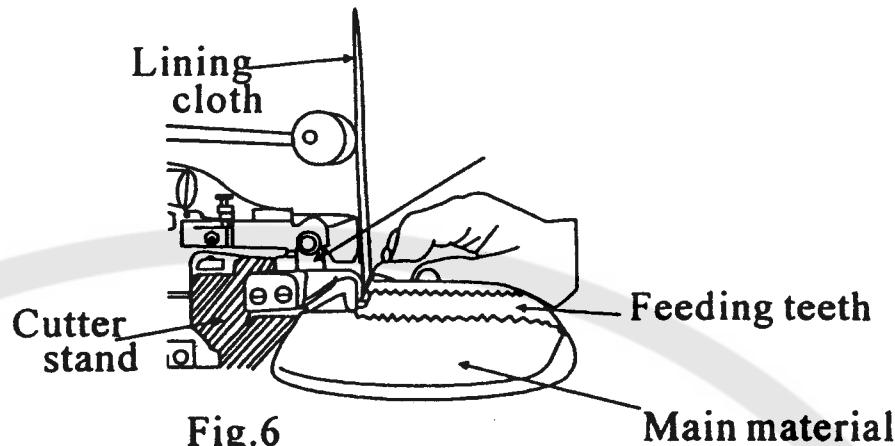
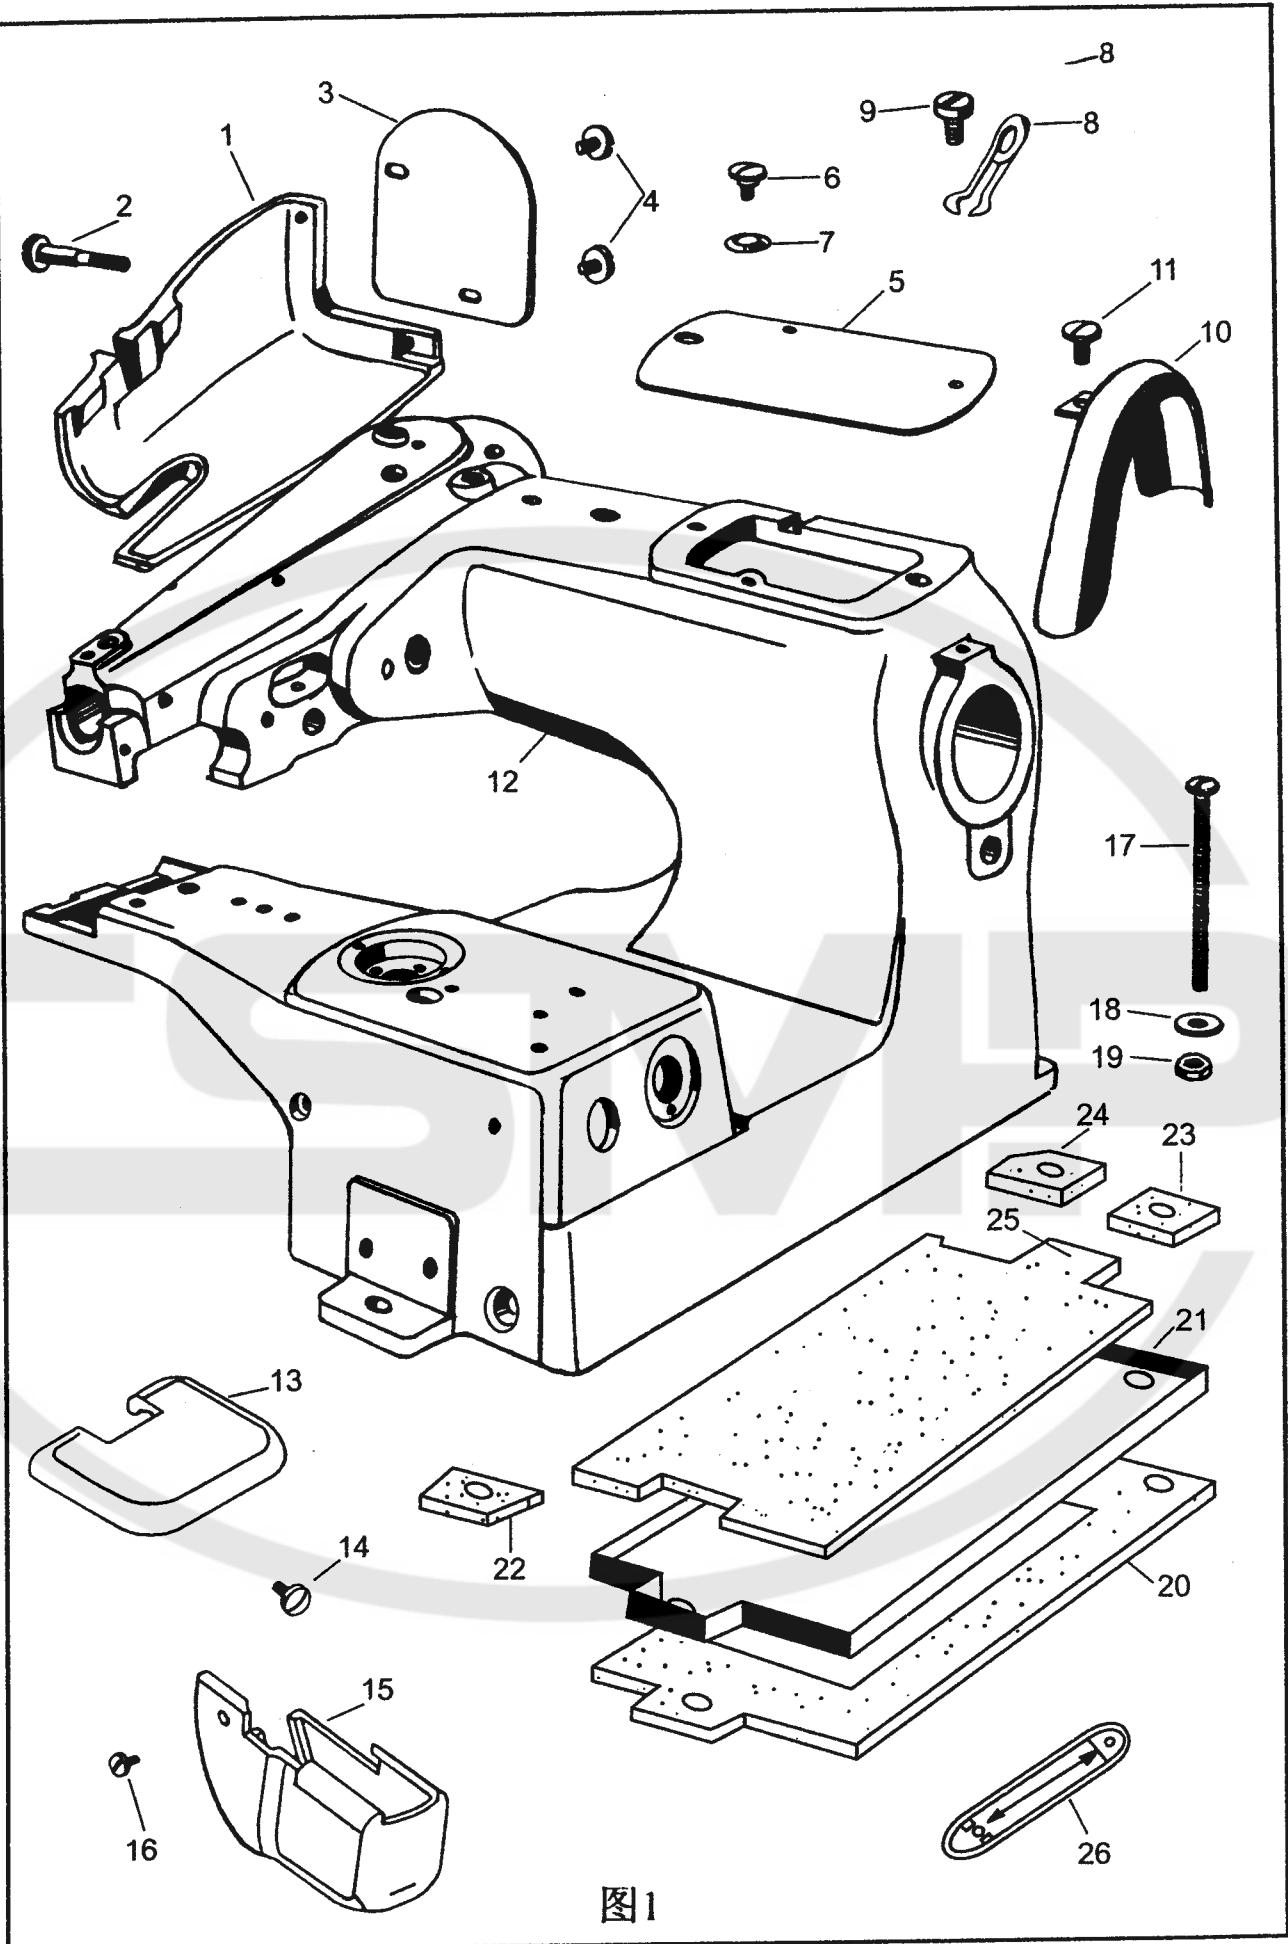

Fig.6
图1
Notice:The distance between small pulley and workplate should be about 60mm.(Fig.1).
Ref.Fig.1
3.Lining cloth is installed on the big bulley.(Fig.1)Clamp the front part of the lining cloth with the clamp. Then above the main material.(Fig.6)